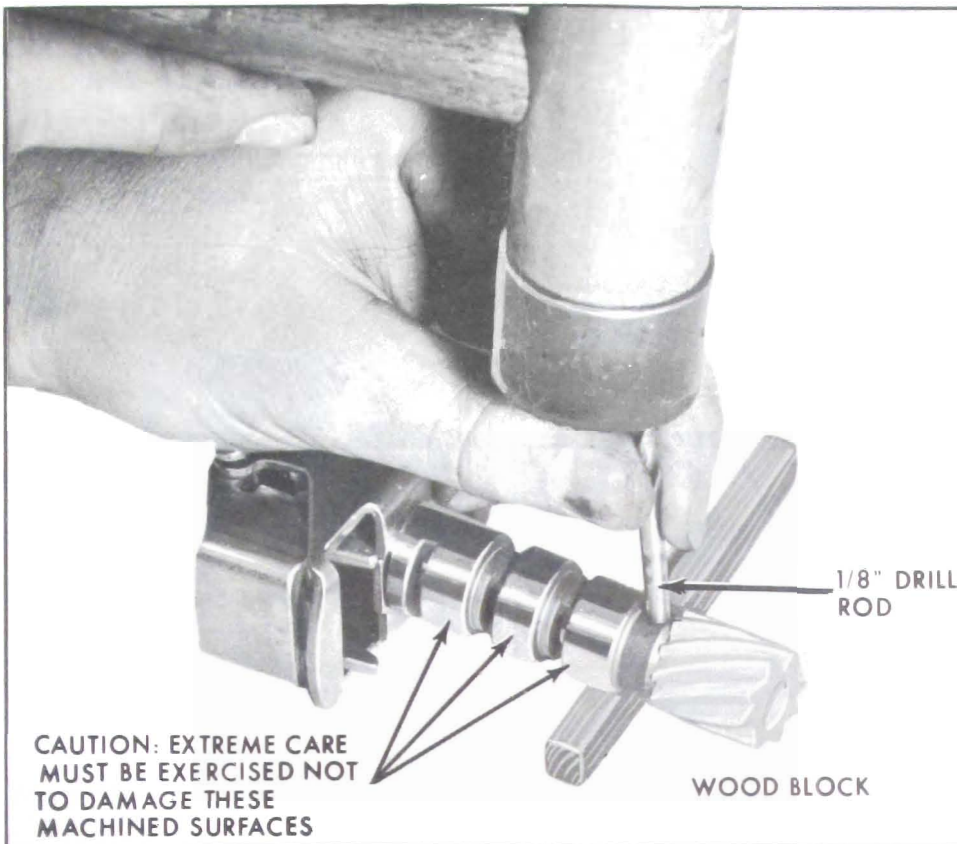

Figure 5-240
1. Support governor sleeve on wood block as shown in Figure 5-240, remove roll pin with a 1/8" drill rod.